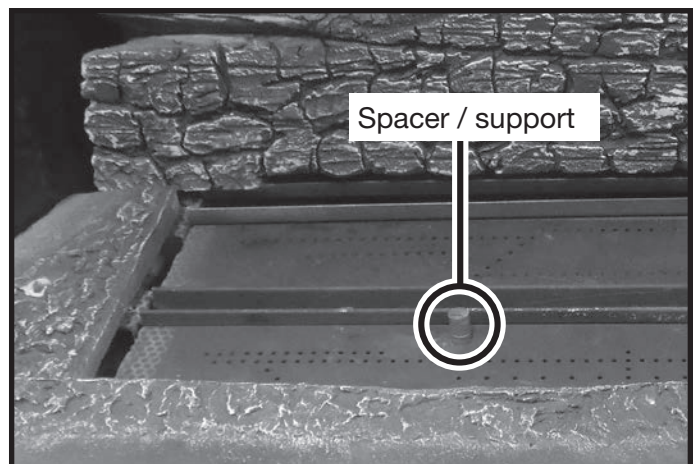

Figure 75: Spacer support.
8. Place included metal spacer/support over top of the left-hand side post located on the front burner (Figure 75). This spacer will support the front end of log number two.